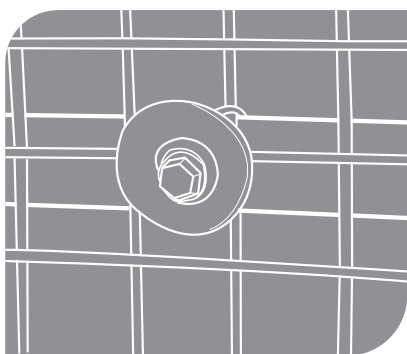

Figure 6. Fixing light mesh
1. Galvanised welded mesh is rustproof and available in a wide range of sizes and gauges. The maximum mesh size recommended for cat enclosures is 50 x 50 mm. A well-fixed 4-gauge mesh will provide reasonable security for your enclosure and is strong enough to support climbing plants should you wish to add them. Metal mesh is fixed to the timber posts and timber rails with staples or washers and tec screws depending on mesh sizes and loading. See Figure 6. Light flexible mesh is held in position with a timber batten nailed to posts or your existing structure (eg house or fence). Ask your mesh supplier to advise on the optimum fixing method for your application.